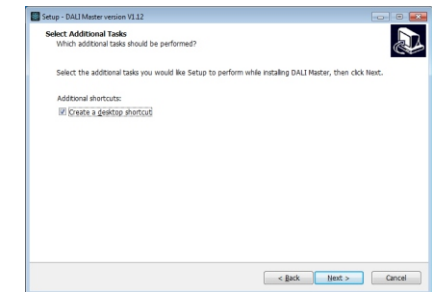

Figure 4 Create Desktop Shortcut
Step 4: Create desktop shortcut as shown in **Figure 4**.